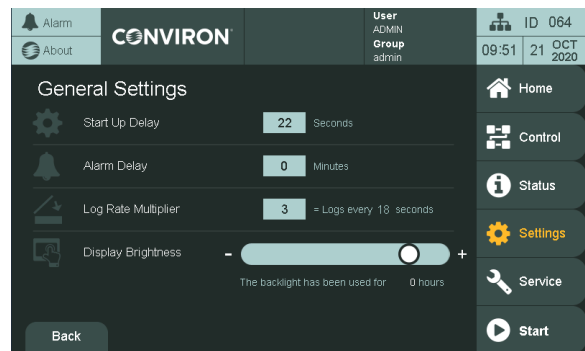

Figure 6-5 General Settings Screen
3. Tap the **General** icon  to access the **General Settings** screen (Figure 6-5).